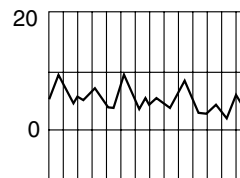

Fig. 2
11. Because of the potential for inadvertent arterial placement, one of the following techniques should be utilized to verify venous access. Insert the fluid primed blunt tip transduction probe into the rear of the plunger and through the valves of the Raulerson Syringe. Observe for central venous placement via a wave form obtained by a calibrated pressure transducer. Remove transduction probe (refer to Fig. 2).